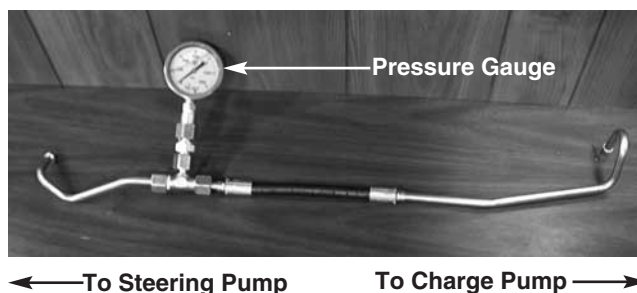

FIGURE 3.
6. Install the pressure test kit into the unit with the pressure gauge standing straight up. See figure 3 and 4.